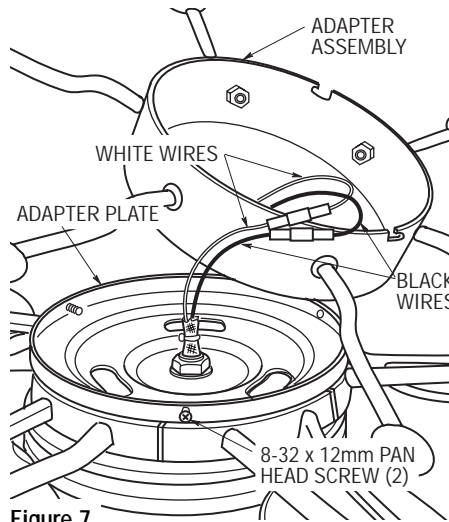

Figure 7
- 11. Connect the white wire from the light fitter to the white wire from the motor (Figure 7). Connect the black wire from the light fitter to the black wire from the motor. Make sure both connectors are securely engaged.
- 12. Partially install two 8-32 x 12mm pan head screws (supplied) in two of the threaded holes in the rim of the adapter plate (Figure 7).